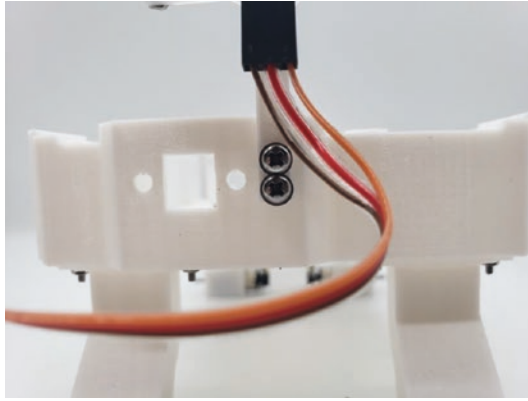

Figure 8-55. *Attach the Ultrasonic Sensor Mount*
11. Attach the Ultrasonic Sensor Mount to the chassis using 2 x M2 10mm screws and 2 x M2 nuts. See Figure 8-55.